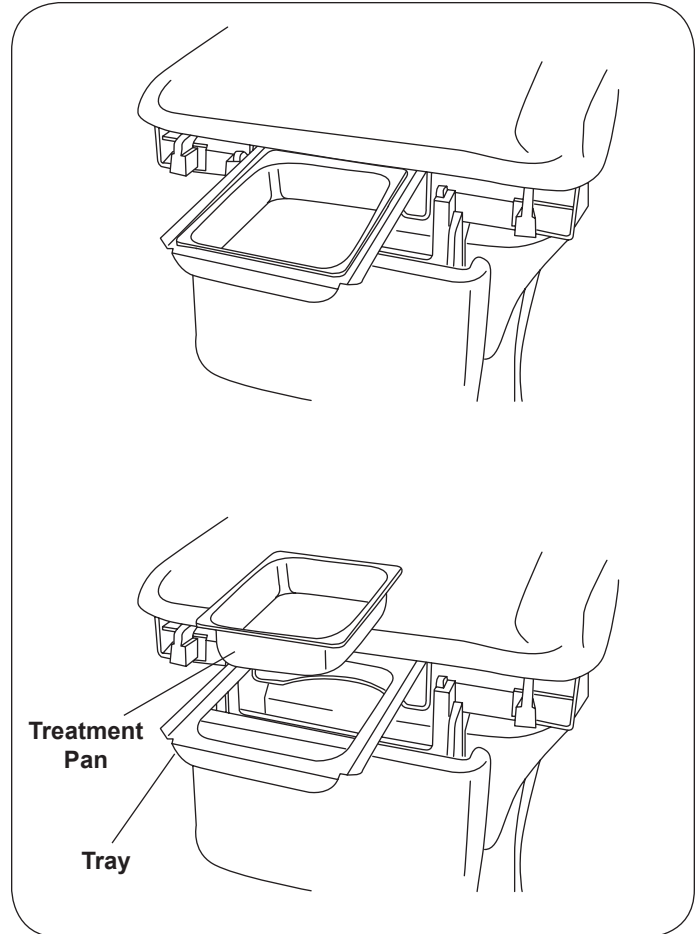

Figure 24. Treatment Pan
Treatment Pan (Figure 24)
1. To expose the treatment pan for use, grasp the tray handle and pull until tray is fully extended (Figure 24).